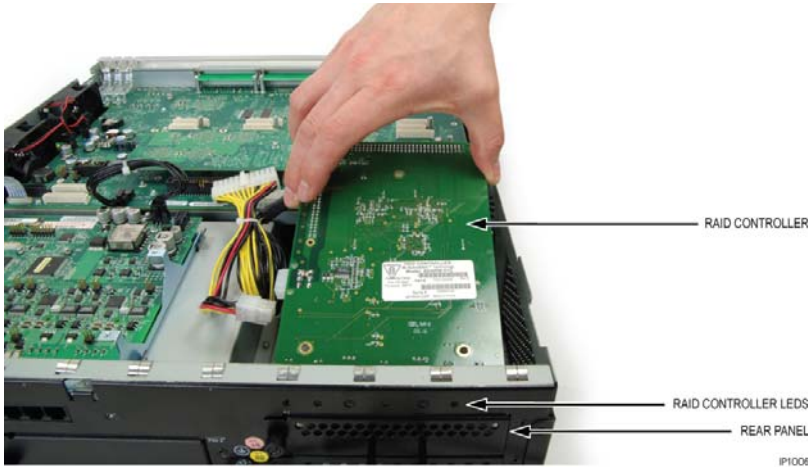

Figure 85: Position the RAID Controller Board
6. Position the new RAID controller board by carefully inserting the LED indicators into the holes in the controller rear panel (see Figure 85).
6. Position the replacement RAID controller by carefully inserting the LED indicators into the holes in the controller rear panel (see Figure 85).
9. Secure the replacement RAID controller to the standoffs with the three (3) screws.
8. Secure the replacement RAID controller to the standoffs with the three (3) screws.